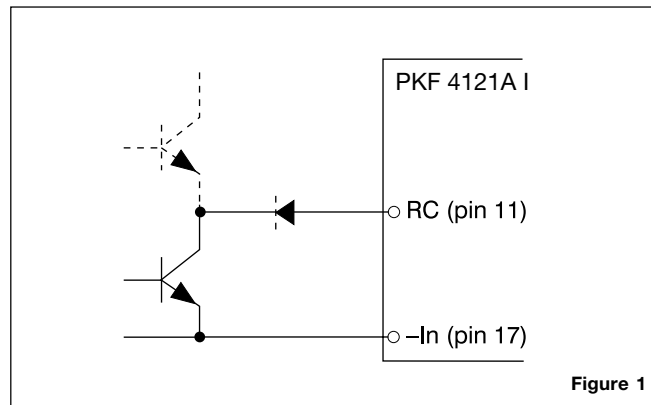

Figure 1
Turn-on or turn-off can be realized by using the RC-pin. If pin 11 is connected to pin 17 the power module turns off. Normal operation is achieved if pin 11 is open (NC). To ensure safe turn-off the voltage difference between pin 11 and 17 shall be less than 1.0 V. RC is an open collector compatible output with a sink capacity of 1mA (see fig. 1).